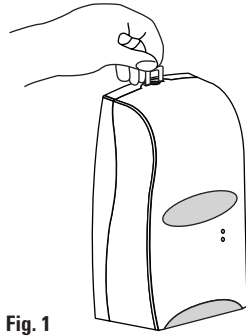

Fig. 1
1. Dispenser cover may be opened by inserting key in slots on top of cover and depressing latch (**Figure 1**) or using optional push button.